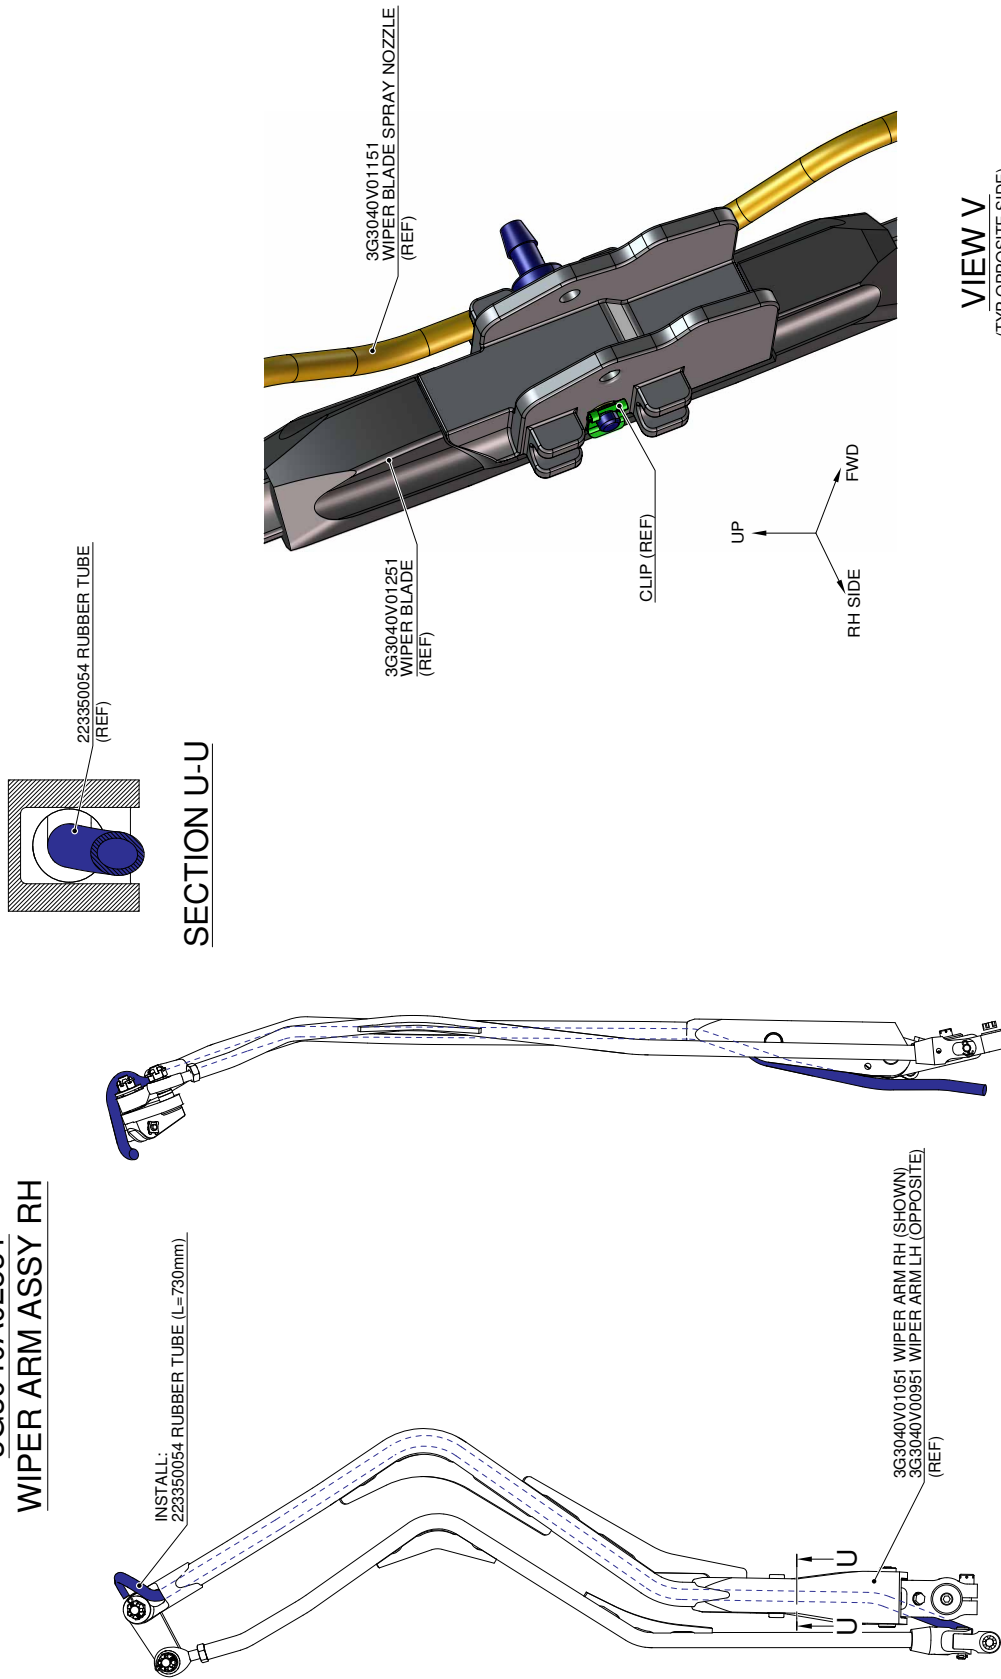

Figure 8
19. With reference to Figure 8 View V, remove the clips from wiper blade spray nozzles P/N 3G3040V01151 and retain for later re-use.
20. With reference to Figure 6 and Figure 8 View V, install n°2 wiper blade spray nozzle P/N 3G3040V01151 on RH and LH wiper blade and relevant clips.
25. With reference to Figure 8 View T, install rubber tube P/N 223350054 of adequate length on wiper arm LH P/N 3G3040V00951.
26. With reference to Figure 8 View T, install rubber tube P/N 223350054 of adequate length on wiper arm RH P/N 3G3040V01051.